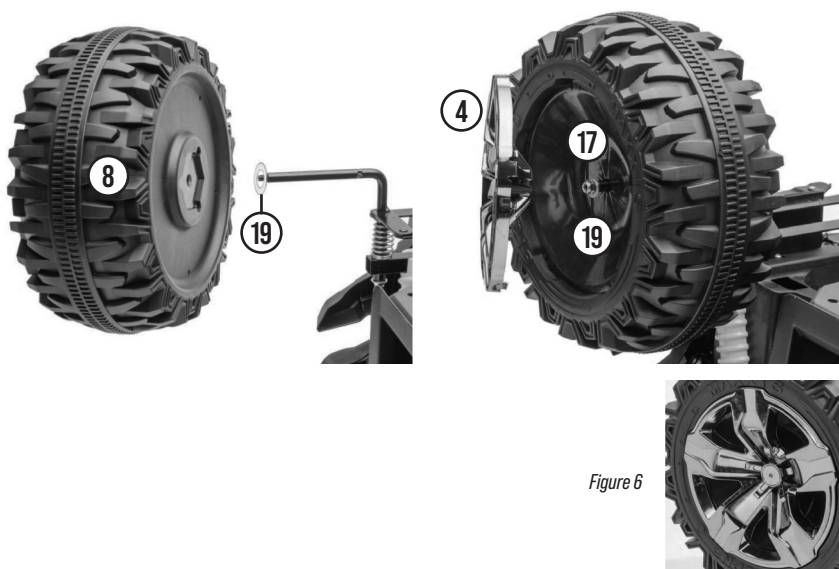

Figure 6
- First install 1 x Part 19 [$\Phi 12$ washer] onto the front axle follow by Part 8 [Front Wheel] and 1 x Part 19 [$\Phi 12$ washer]. Cap it with Part 17 [$\Phi 10$ nut] and tighten completely with wrench. Lastly snap on Part 4 [Wheel Cover] onto the wheels. Please see Figure 6.